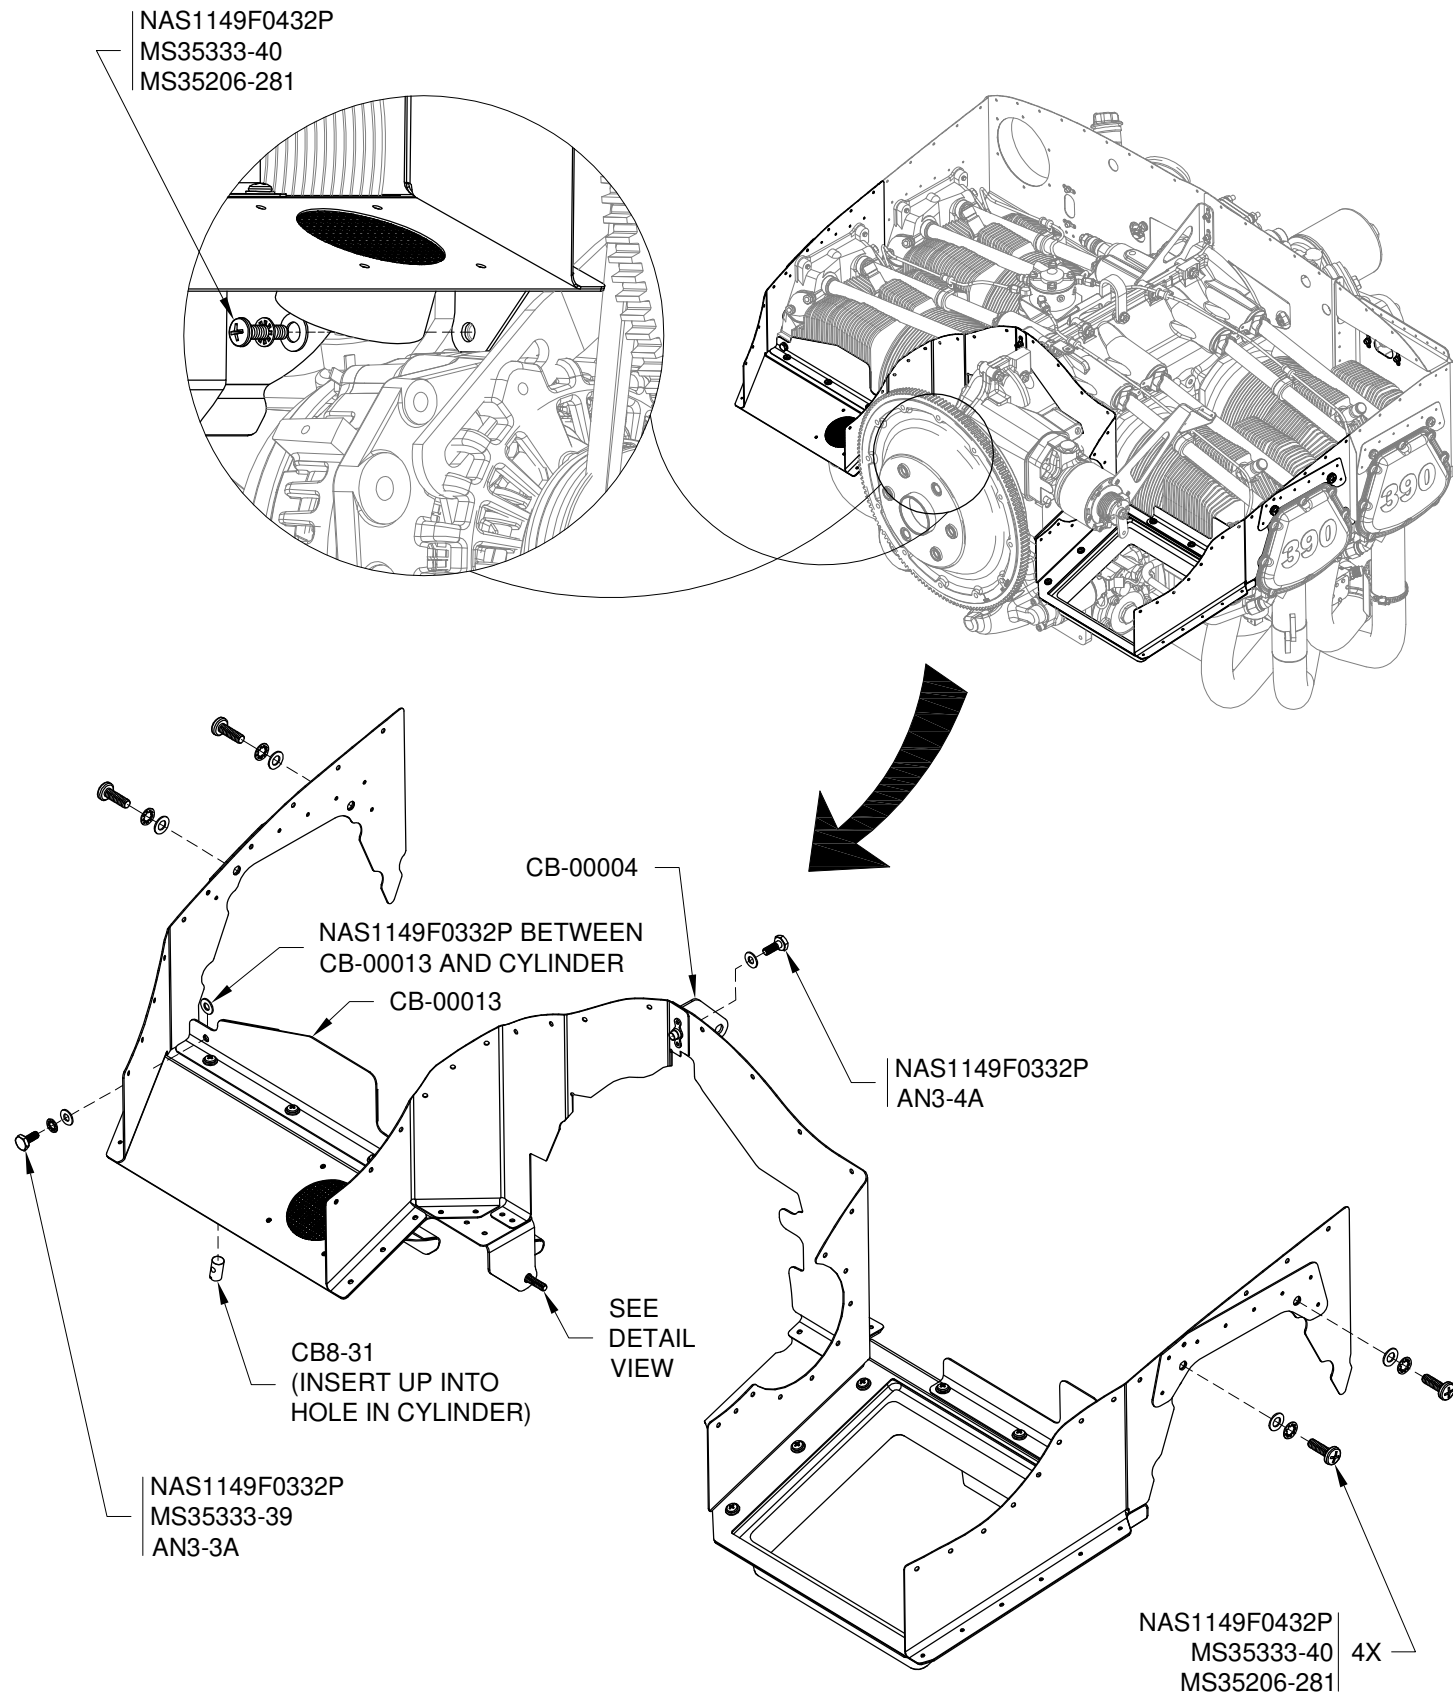

FIGURE 1: ATTACH FORWARD BAFFLES
Step 2: Fully tighten the hardware attaching the CB-0004 Fwd Center Bracket to the engine. See Figure 1.